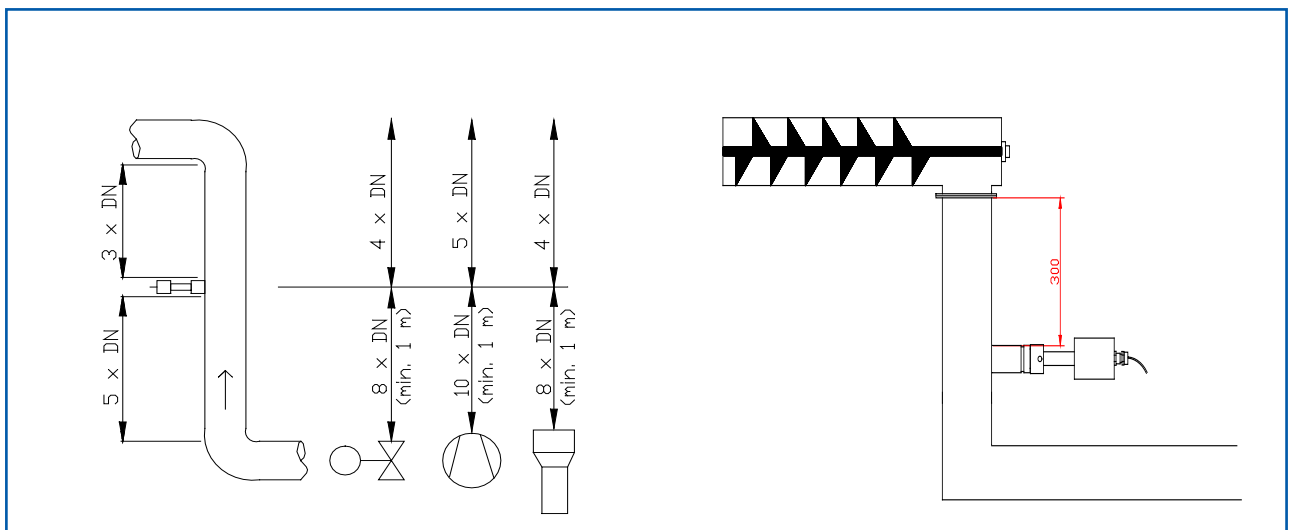

Fig. 6: Minimum distances of the measurement point from pipe geometries and fittings
- Ensure that the measurement point is at an adequate distance from valves, manifolds, blowers and bucket wheel feeders and other measurement ports such as those used for pressure and temperature sensors, etc. (See Fig. 6)